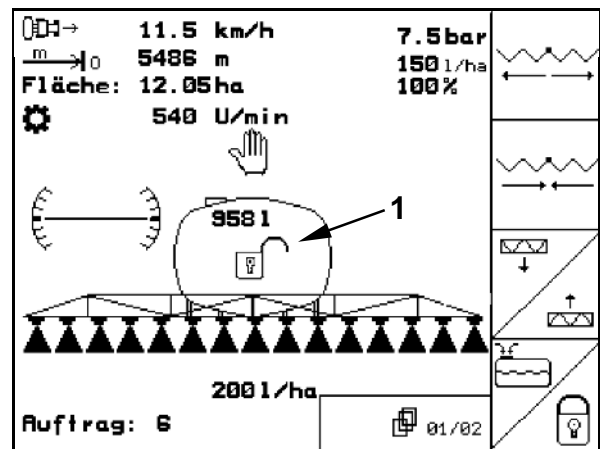

Fig. 136
- In the operation menu the opened lock symbol appears (Fig. 136/1) when the swing compensation is unlocked.